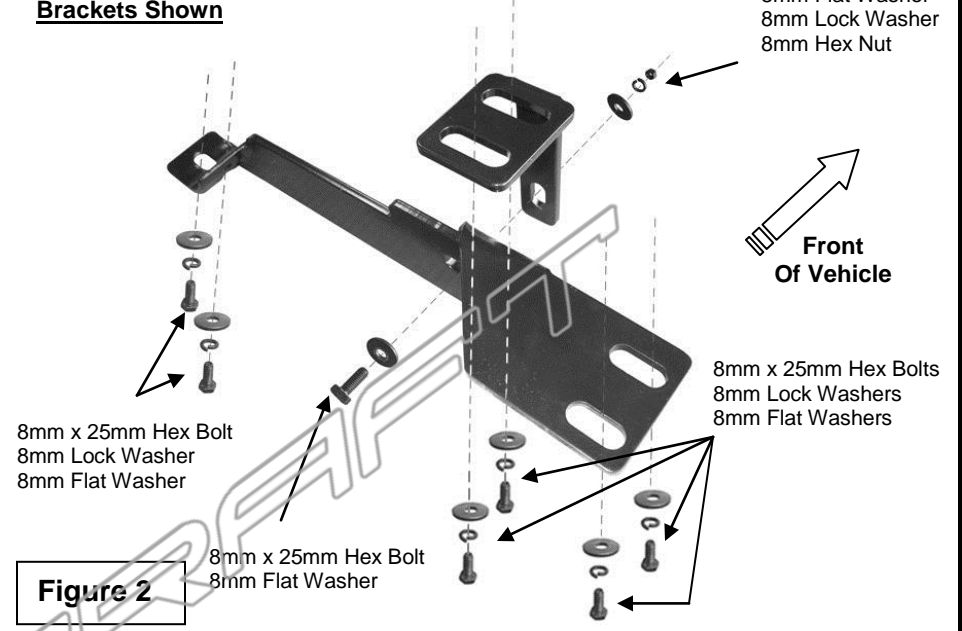

Figure 2
- Attach and secure Rear Mounting Bracket and Auxiliary Bracket in the same manner as the front. **NOTE:** The Auxiliary Bracket for the rear mounts in the front side of the rear Mounting Bracket and with the 90° bend towards the rear of the vehicle (**Figure 2 & 4**).